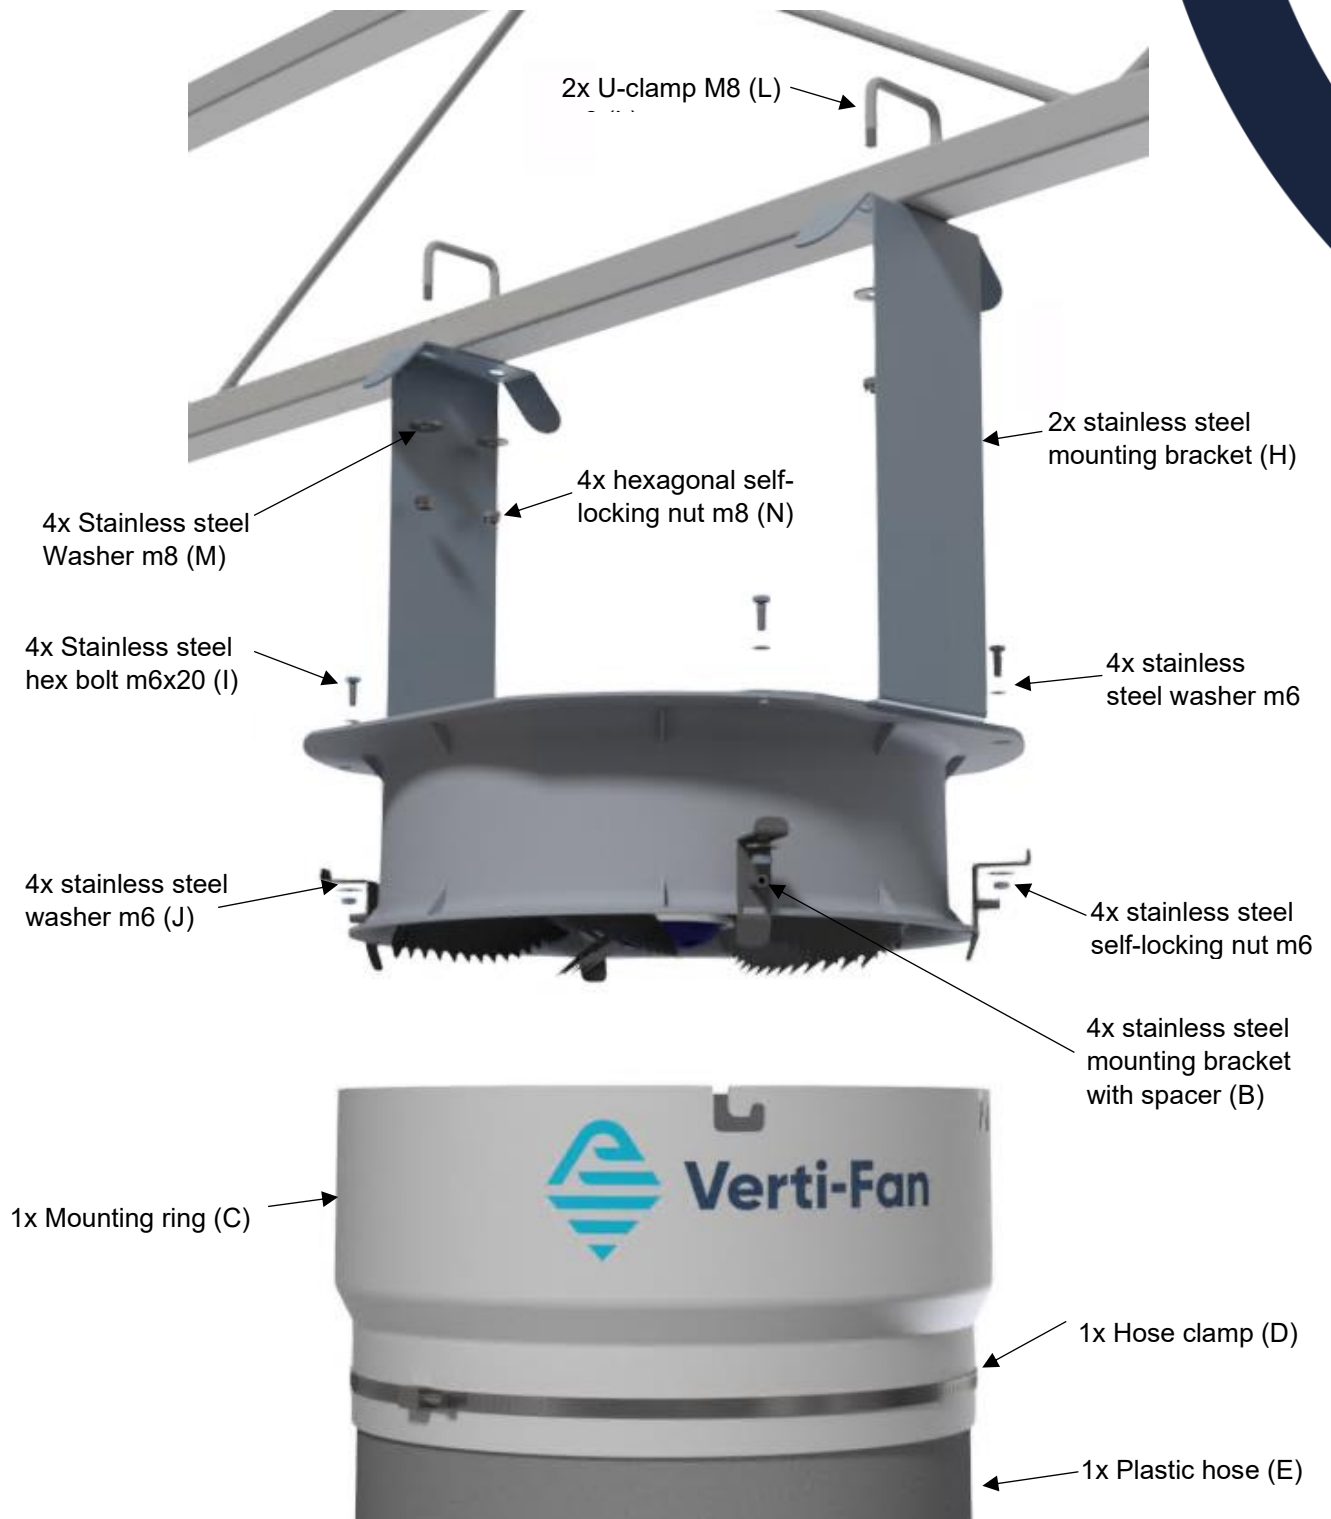

Figure 3 Lowered installation of the Verti-Fan using lowered brackets
In the table below and in the installation description is referred to parts in Figure 3.
- Attach the two stainless steel lowering brackets (H) and mounting brackets and spacers (B);
- Using four stainless steel M6 x 20 bolts (I), eight stainless steel M8 bodywork washers (J) four and stainless steel M6 nuts (K) on the suction side of the fan (A);
- See Figure 3.
- Before the fan can be attached to the trellis, the lowered- and mounting brackets and spacer must be fixed to the fan. This has to be done as prescribed in chapter 4.2.2 and figure 3.
- Loosen the U-clamps (L), keep the washers and nuts;
- Place the U-clamps (L) over the truss, and through the holes in the lowered brackets;
- Put the washers (M) in place, and tighten the two self-locking nuts (N) hand tight;
- Tighten the self-locking nuts (N) until the Verti-Fan is in a firm horizontal position;